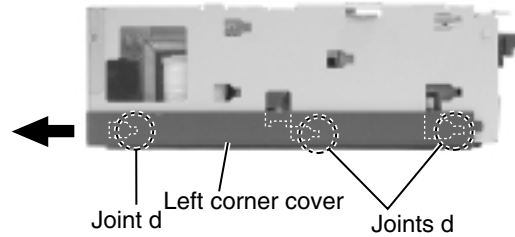

Fig.10
■Removing the right and left corner covers (See Fig.10 and 11)